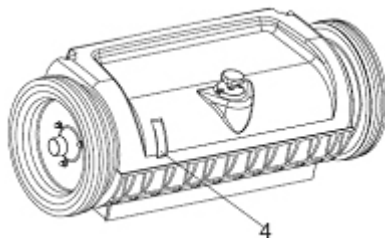

Fig. 9
3.4 Main brush pressure reading scale (4 in Fig. 9)